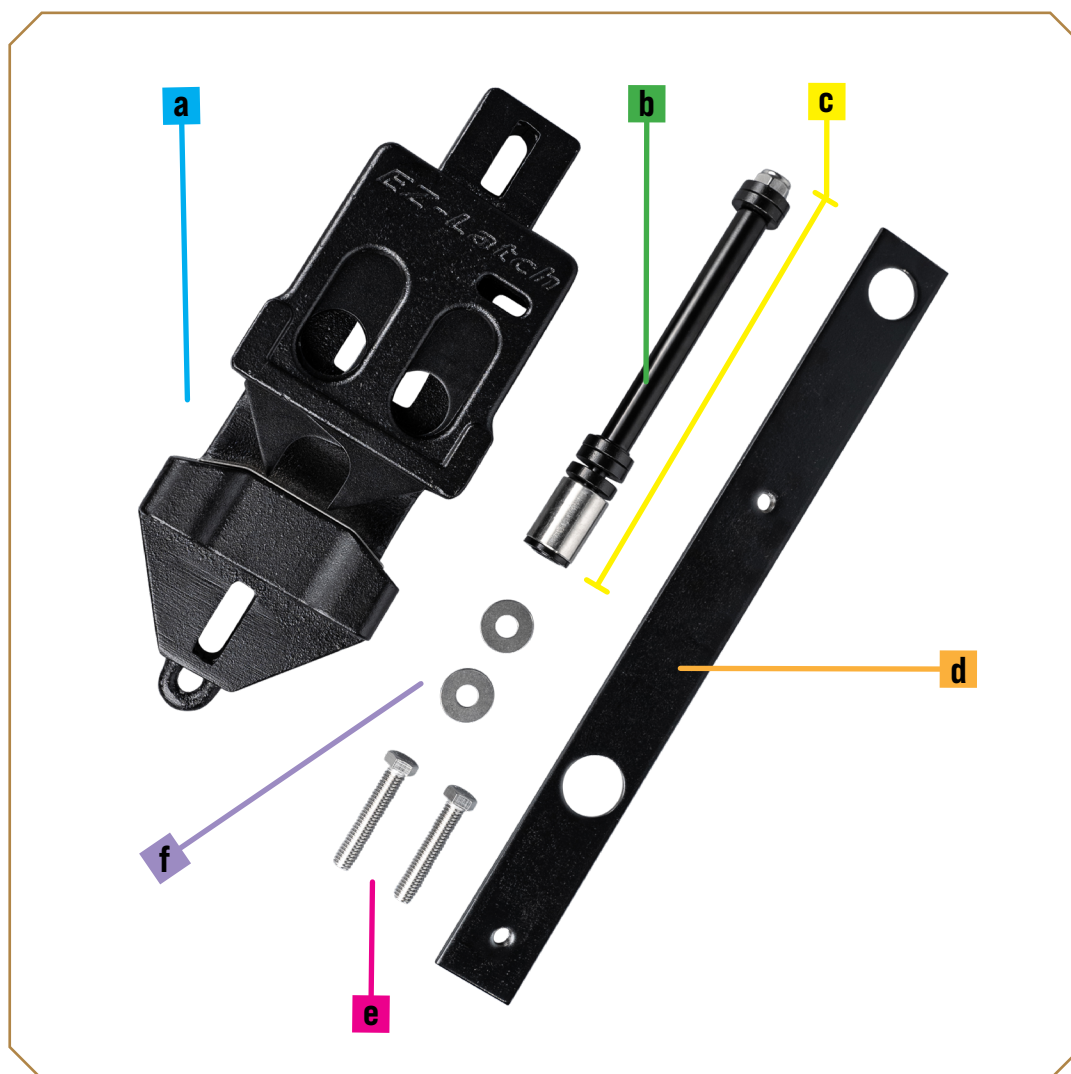

Figure 1
1. Place enough washers on the latch pin (Figure 1) to allow the end of the pin to clear the latch post by 12,7 mm or slightly more. Insert the $\frac{3}{8}$ " pin into the pre-drilled gate hole from the outside.